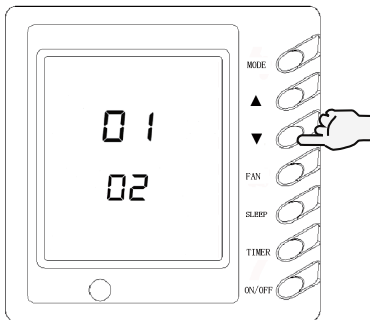

Fig.22
B. Indoor ambient temp is wired controller temp and the setting temp area displays 01, as shown in Fig.22.